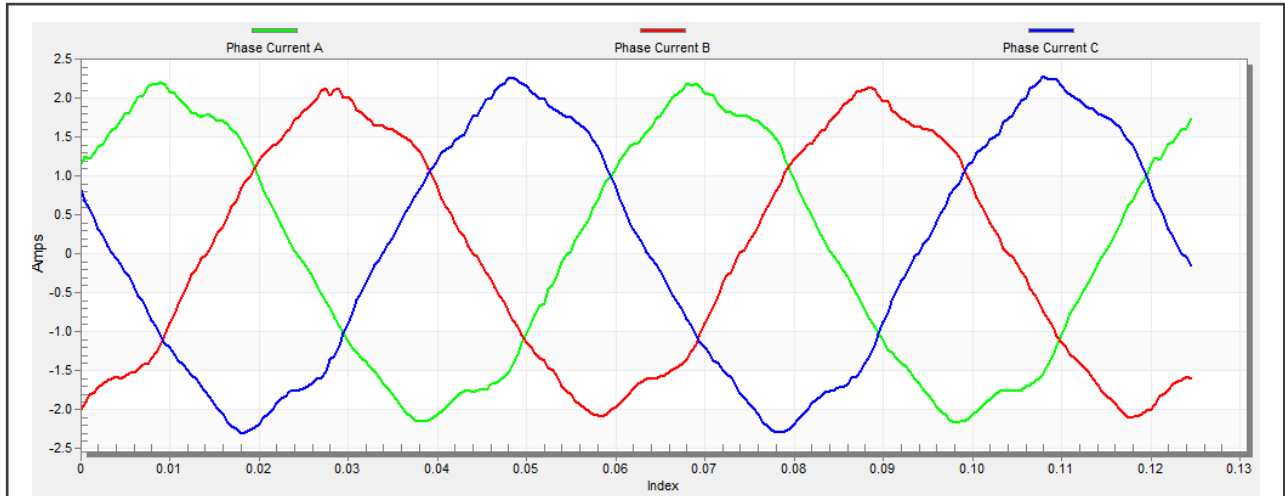

Figure 23. Phase currents
5. The optimal ratio for the V/Hz profile can be found by changing the V/Hz factor directly or using the “UP/DOWN” buttons. The shape of the motor currents should be close to a sinusoidal shape (see Figure 23).